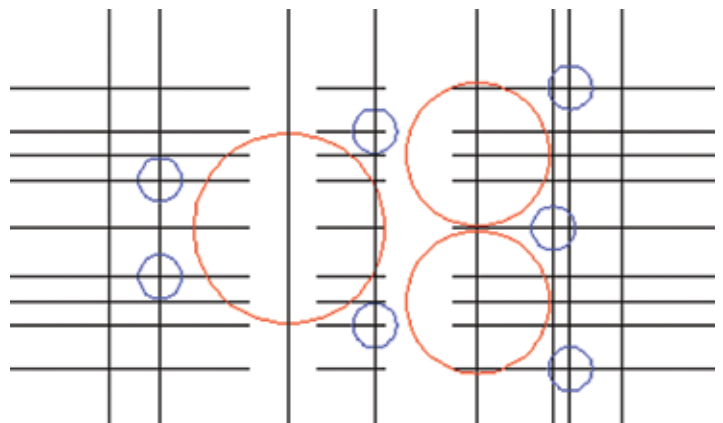
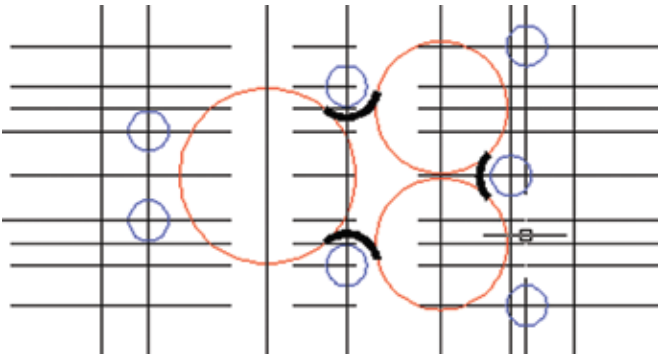

Figure 9.9
Figure 9.10
- *. Your drawing should now look like Figure 9.9.
Figure 9.9 shows the drawing nearly constructed. We need to modify the three large circles so that they become one large curved entity. To do that we will use the **Fillet** command. The fillet command “rounds” the corners on straight lines or circles. In effect we will be drawing something like an arc around the designated circles. Figure 9.10 shows what lines will be drawn after the circles are filleted.
To create the fillets shown in Figure 9.10, follow the procedure below.
24. **Fillet the remaining circles** so that your drawing looks like Figure 9.10.